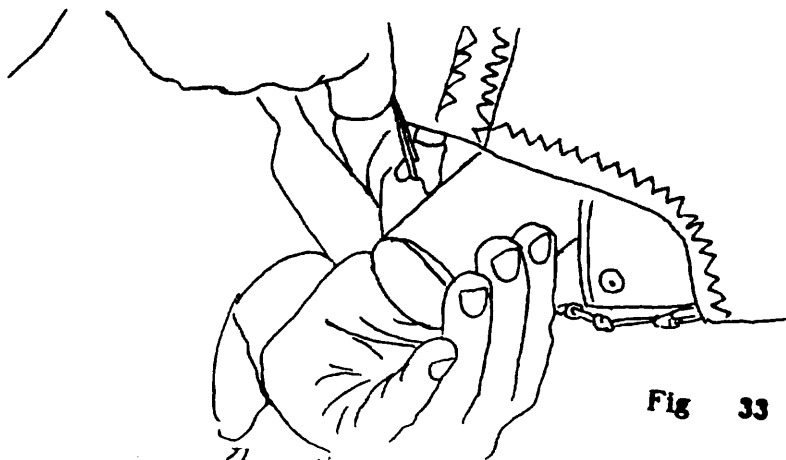

Fig 33
19) Set the glider nose into the wind, and pull the nose down. Grasp the string loop at the front of the nose batten and pull the forked batten end up and over until it sits on top of the keel tube. (Fig 33 and 34)